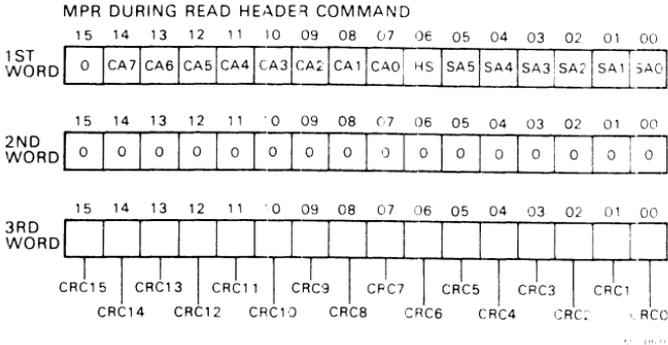

Figure 11 MPR Three Header Words
*MPR During a Read Header Command* – When a read header command is executed, three words will be stored in the multipurpose register (FIFO output buffer). The first header word will contain sector address, head select and cylinder address information. The second word will contain all 0s. The third word will contain the header CRC information. All three words are readable by the main program (Figure 11).